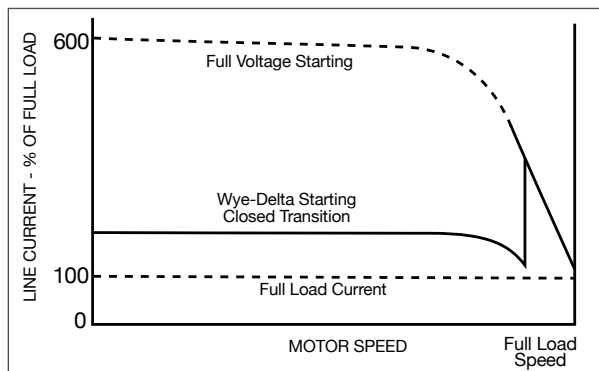

Figure 6: Wye-Delta Starting
**Wye-delta starters** – Some motors have six leads that allow them to be connected in either wye or delta configurations. By connecting the motor winding in the wye configuration and using a voltage source corresponding to the delta rating, starting current and torque are reduced to 33 percent of the delta connected values. Use only with closed-transition starters, however. See Figure 6.